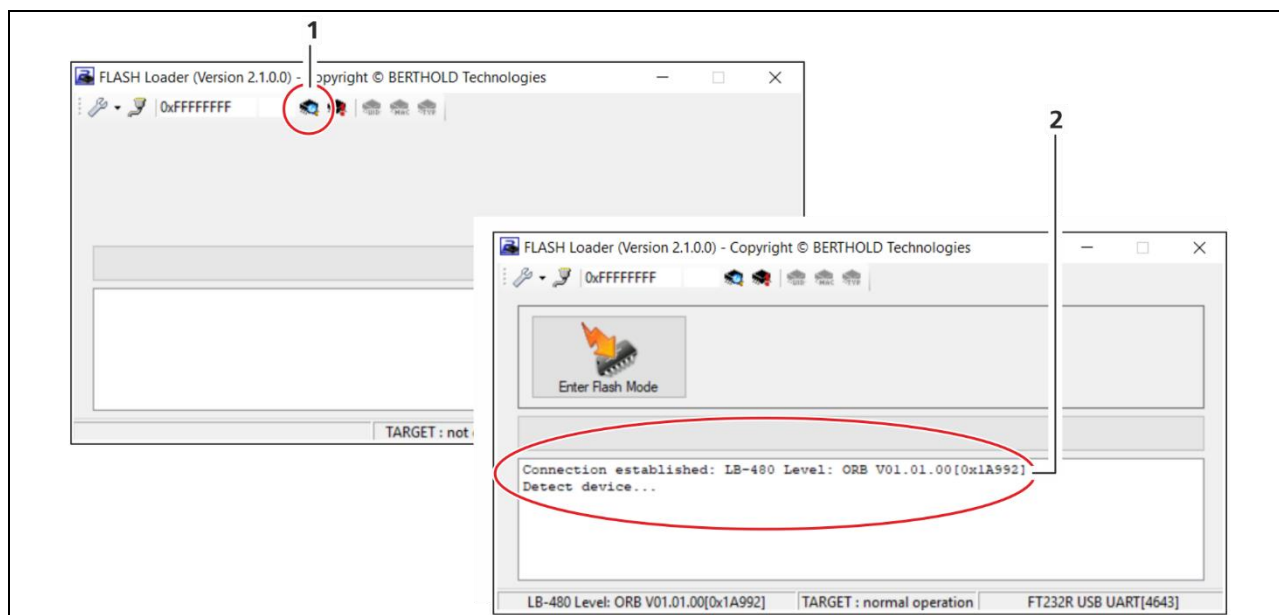

Fig. 4 Set up the connection to the detector
23. Click on the “Detect Device” button  (Fig. 4, Pos.1) to establish the connection to the detector.
- The detector has been found and the connection is established. The button <Enter Flash Mode> is displayed and the message “Connection established: ...” (Fig. 4, Pos.2) appears.